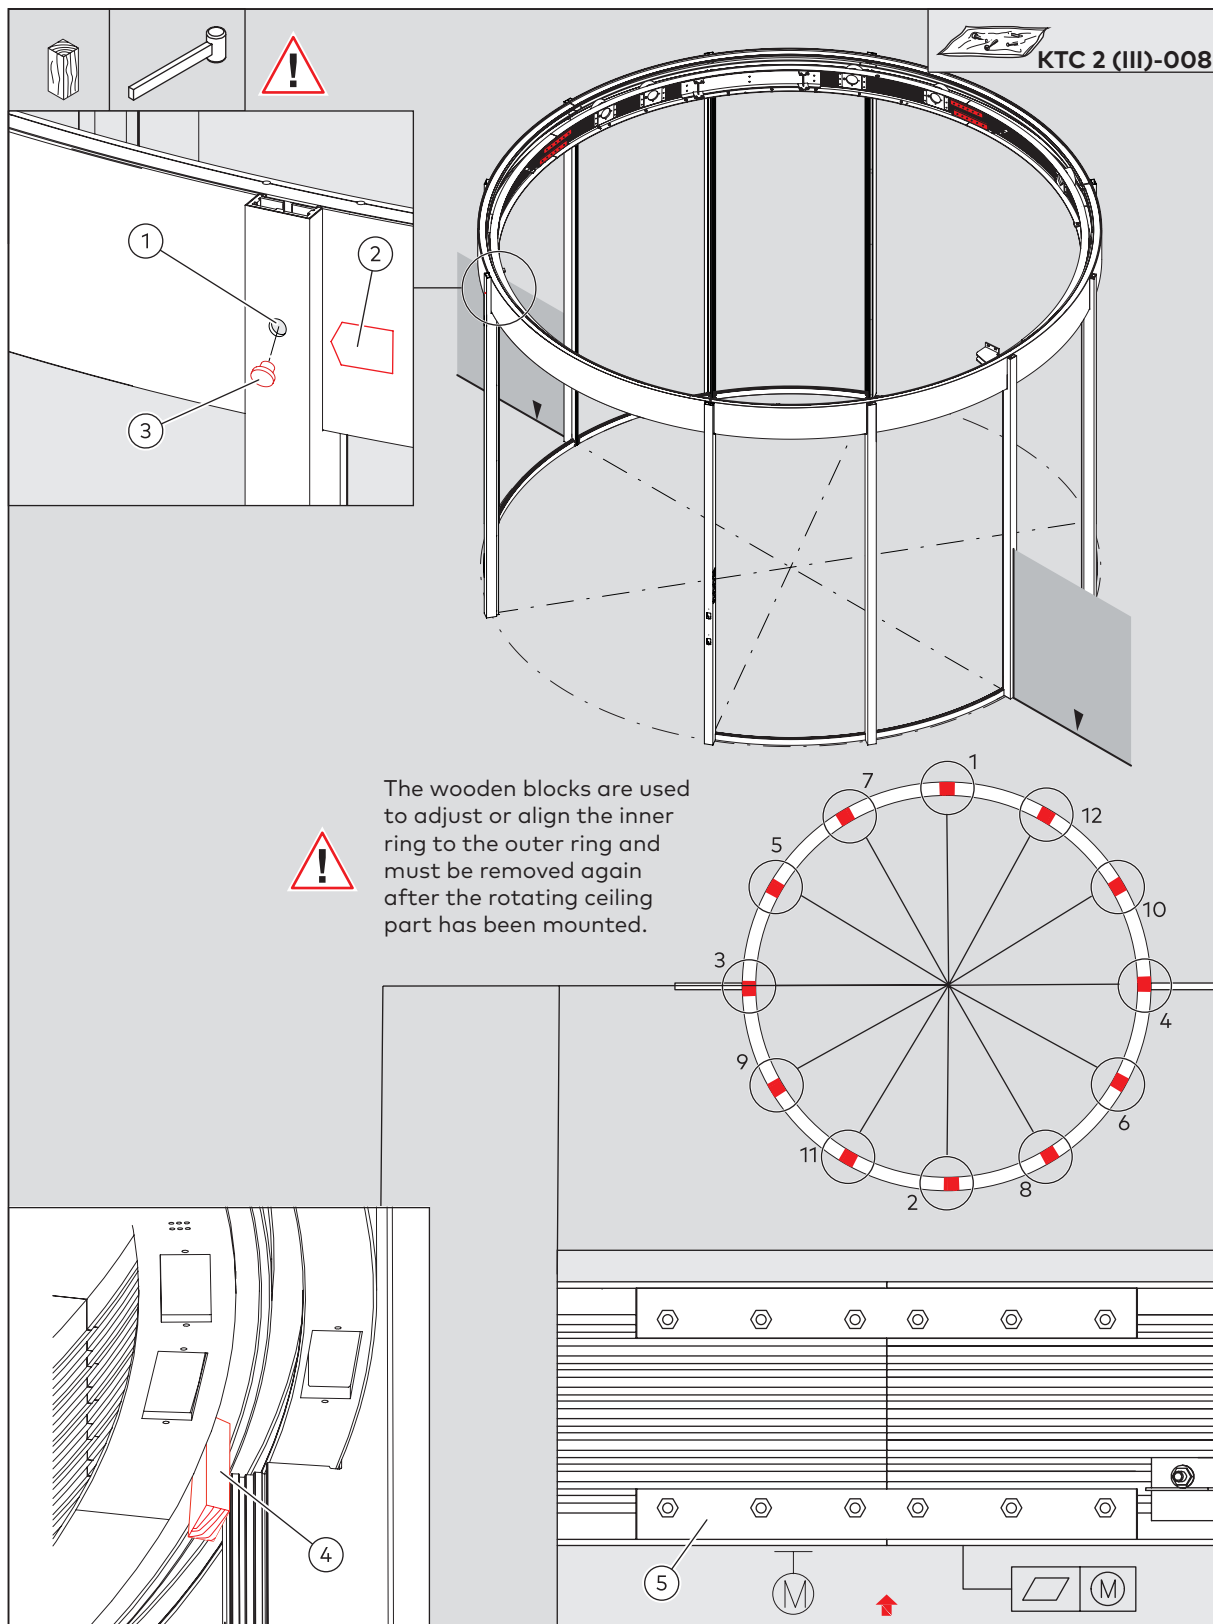

Fig. 40 Mounting the lower ceiling ring
3. Insert the 12 wooden blocks (Fig. 40/4) between the inner ring and the track rail in the order indicated in Fig. 40.
5. Tighten the nuts to lock the connecting plates (Fig. 40/5).
6. Electromechanical locking device: close the hole (Fig. 40/1) in the inner left post with the cap (Fig. 40/3).
7. Electromechanical locking device: place the sticker (Fig. 40/2) for the emergency release next to the hole.